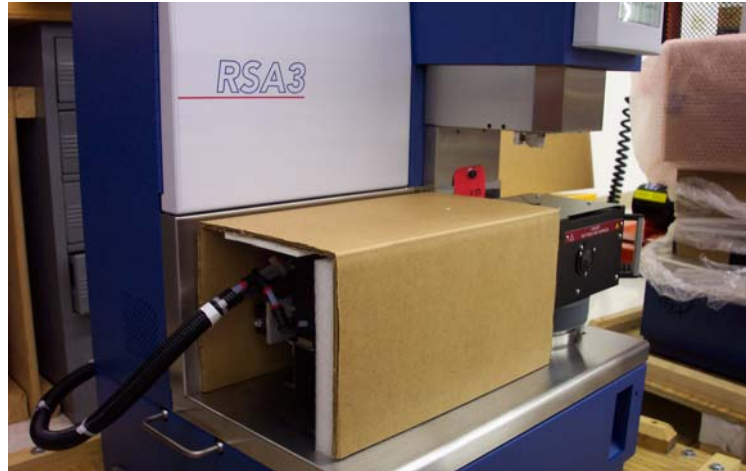

Figure 10
- 24.) Wrap corrugated-foam shipping shelf on the Oven (Figure 10). Pack all accessories, cables and hoses into corrugated carton . Seal the box with heavy- duty tape.